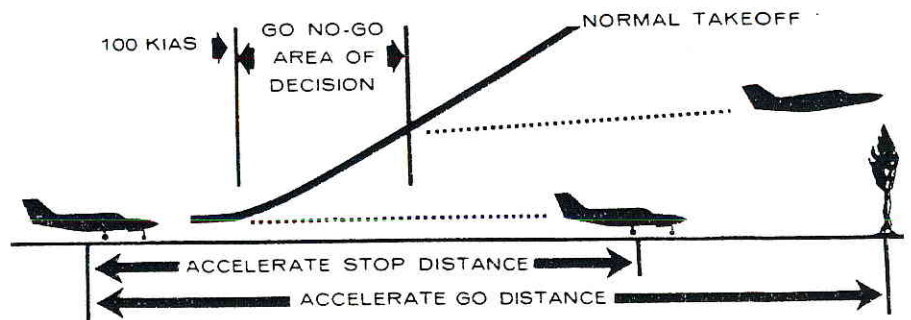

Figure 3-2
Fortunately, the airplane accelerates through this "area of decision" in just a few seconds. However, to make an intelligent decision in this type of emergency, one must consider the field length, obstruction height, field elevation, air temperature, headwind, and takeoff weight. The flight paths illustrated in Figure 3-2 indicate that the "go no-go area of decision" is bounded by: (1) the point at which 100 KIAS is reached and (2) the point where the obstruction altitude is reached. An engine failure in this area requires an immediate decision. Beyond this area, the airplane, within the limitations of single-engine climb performance shown in Section 5, may be maneuvered to a landing back at the airport.